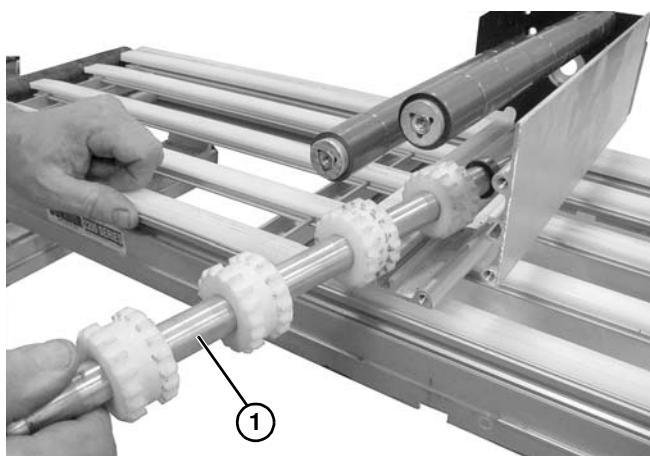

Figure 52
9. Remove drive shaft (**Figure 52, item 1**).